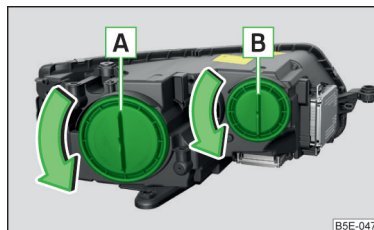

Fig. 224
Bulb arrangement » Fig. 224
- Turn the protective cap **A** » Fig. 224 on page 232 in direction of the arrow.
- Insert the protective cap **A** » Fig. 224 on page 232 and turn it opposite to the direction of the arrow.
- Turn the protective cap **B** » Fig. 224 on page 232 in direction of the arrow.
- Insert the protective cap **B** » Fig. 224 on page 232 and turn it in the direction opposite to the arrow.